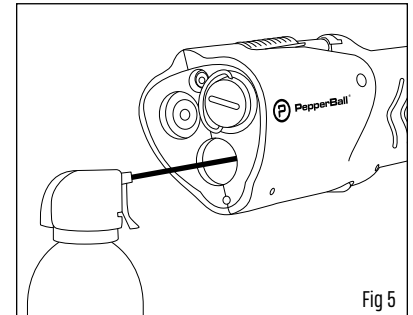

Fig 5
7. Rotate launcher around and repeat process by spraying compressed air into barrel (front of launcher) to blow remaining projectile powder out of magazine tube. (Fig 5)